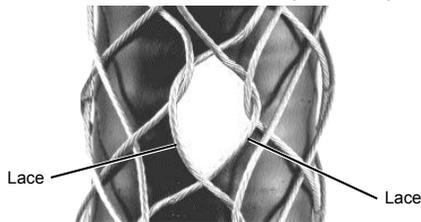

Figure 4
4. Continue lacing so that the seam is straight and the lace is pulled so that the space between both sides of the seam is no greater than the spaces of the mesh next to the loop. See **Figure 4**. Do not skip any loop pairs of the grip when lacing; this will weaken the hoisting grip. The grip can be compressed from bottom to top to simplify lacing.